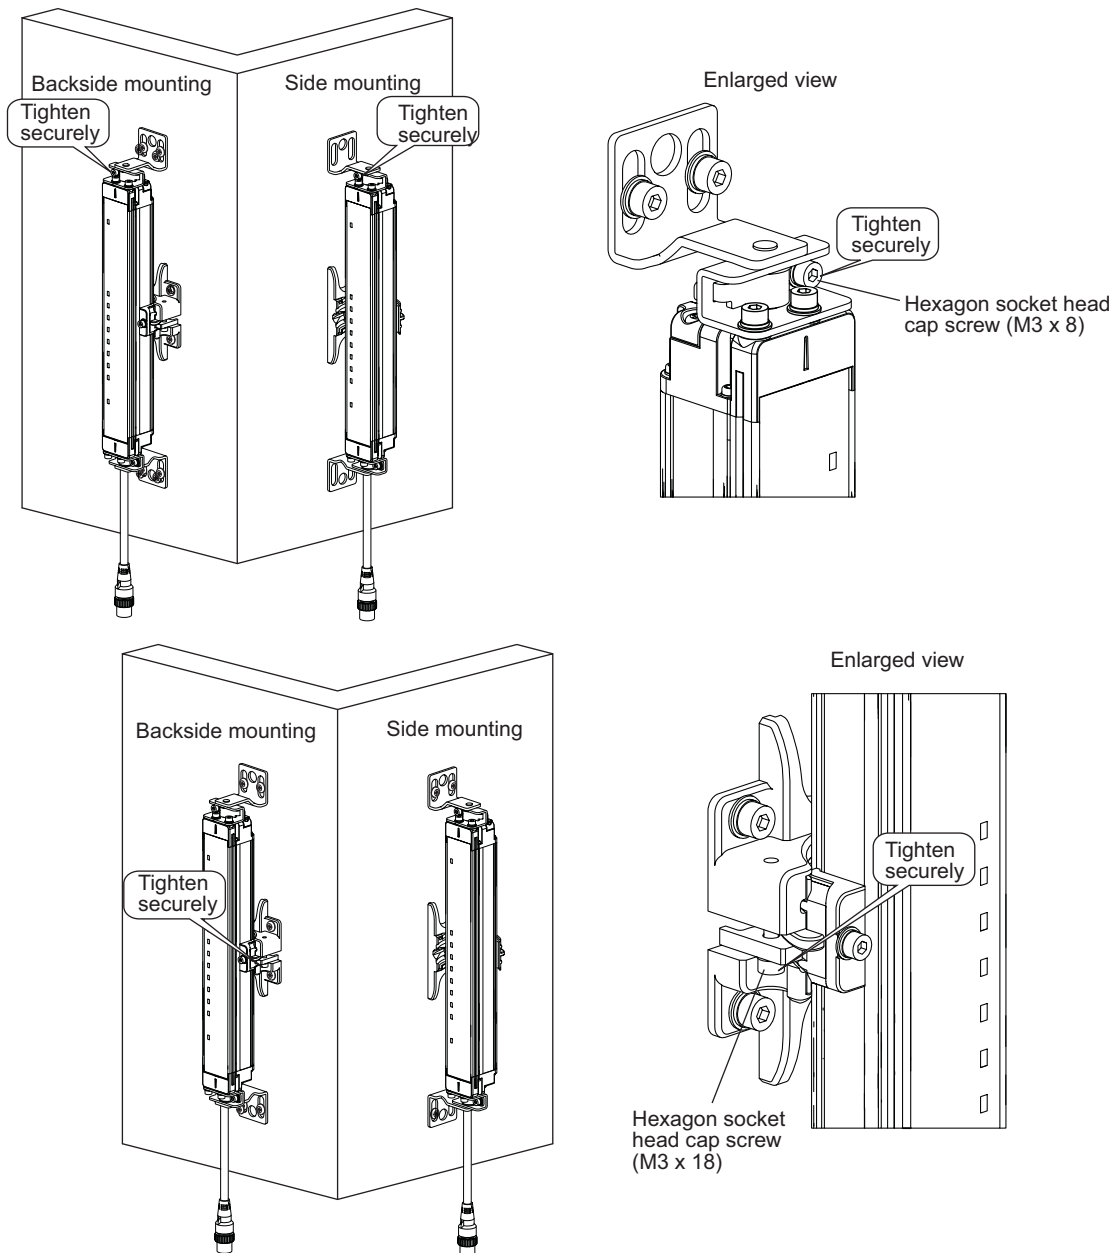

Figure 14
- 7.** Tighten the lightly tightened hexagon socket head cap screws (M3 x 6, M3 x 18) to prevent rotation of the Top/Bottom Brackets and Intermediate Bracket. (Figure 14)